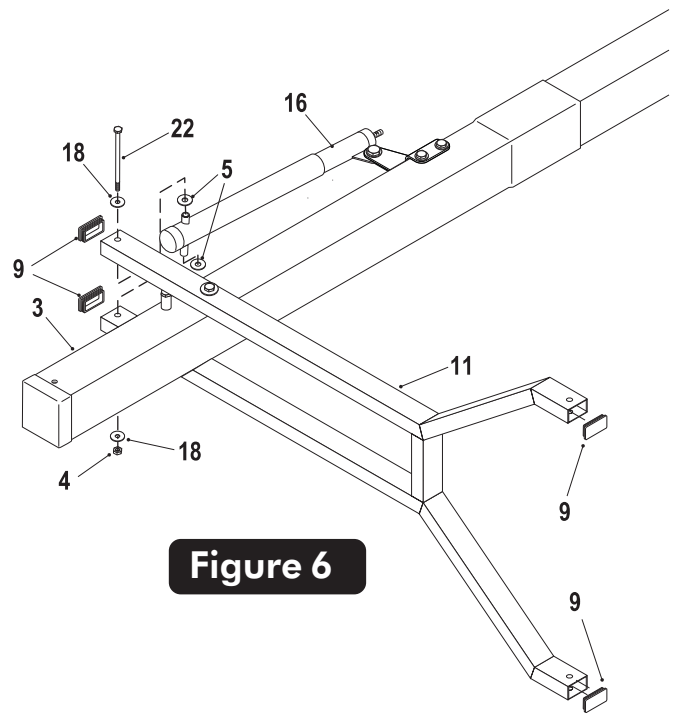

Figure 6
- Secure Actuator (#16) to Lower Arms (#11) using one bolt (#22), two flat washers (#18), two plastic washers (#5) and one lock nut (#4). See Figure 6. Tighten both bolts (#22) securing Lower Arm (#11).
- Insert four Tube Plugs (#9) into open ends of Lower Arms (#11). It may be necessary to use a rubber mallet to tap them in. See Figure 6. **Note:** Tube plugs may be pre-installed by the factory.